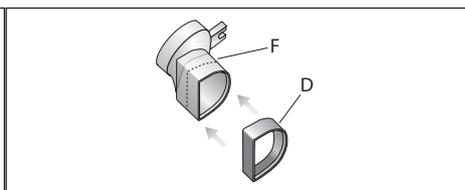

Fig. 14
- Install seal **D** on adapter **F** (Fig. 14).